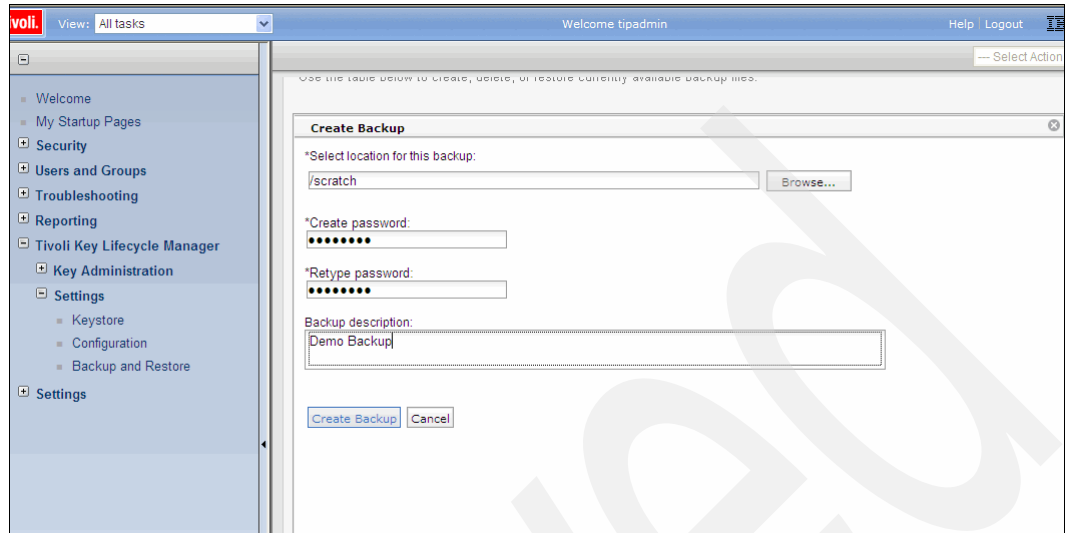

Figure 8-2 Backup creation
3. The panel in Figure 8-2 is displayed. You are prompted to select a location for the backup, a password for the backup, and a short description.